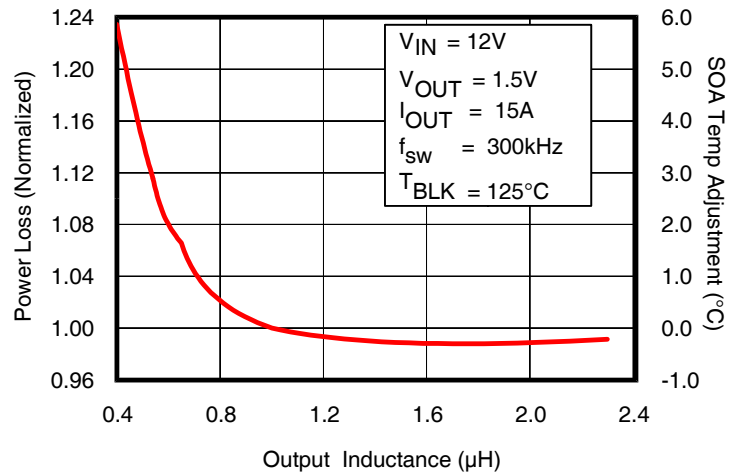

Fig. 7: Normalized Power Loss vs. Inductance
- (Fig. 7) Normalized power loss for inductor value ≈ 1.08
- (Fig. 7) Normalized SOA Temperature for inductor value $\approx +2.0^{\circ}\text{C}$